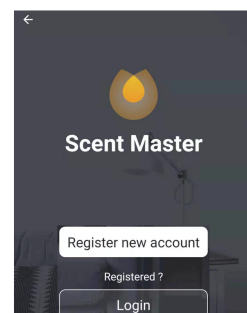

Figure 2
- (3). Click [Register new account] for the first time (Figure 2).